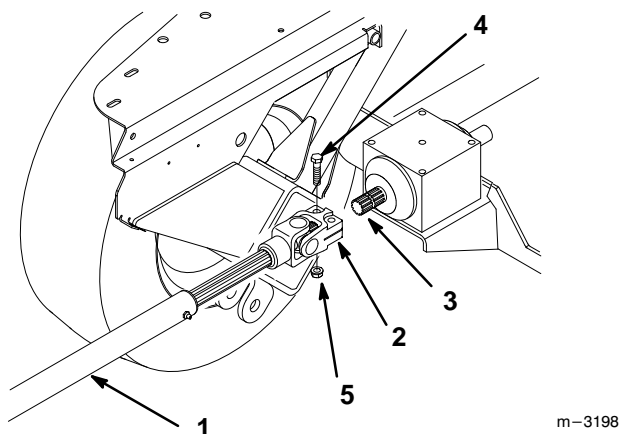

Figure 5
1. Secure universal joint to gearbox shaft with (2) 3/8"–16 x 1-5/8" (41.5 mm) bolts and 3/8"–16 locknuts (Fig. 5).
1. Remove (2) 3/8"–16 x 1-5/8" (41.5 mm) bolts and 3/8"–16 locknuts from universal joint and slide the driveshaft off gearbox shaft (Fig. 5).